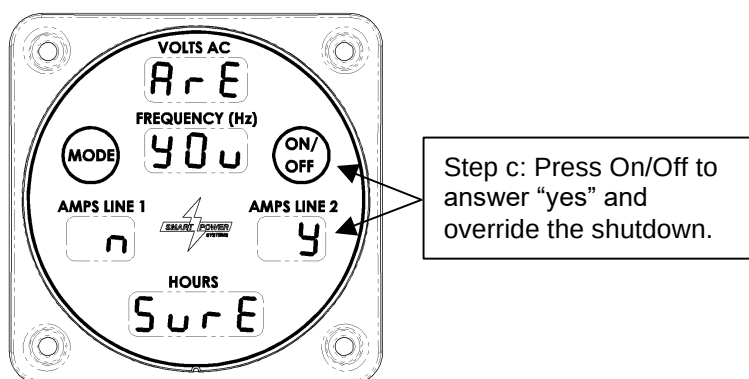

Figure 26 – Temperature Sensor Fault Override Confirmation
- c. If your answer was “yes” in the previous step, the confirmation screen shown in Figure 26 will be displayed. Again note the *Y* and *n* labels below the Mode and On/Off switches. Press the On/Off switch to answer “yes” and override the shutdown. Press Mode to answer “no” and proceed to the oil temperature display.